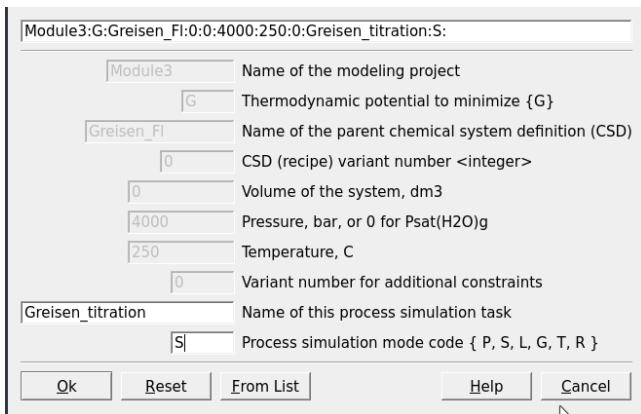

Figure 3.14: Name the ‘Process’ simulator and indicate the model type.
- Create a titration model similar to Module 2 for the feldspar reaction path, except this time we will choose "R_leucogranite" as the titrant. The simulation conditions will be 250 °C and 4000 bar, and we will add 0.1 g to 2000 g of R_leucogranite to Fluid_greisen. Figures 3.14, 3.3, and 3.15 show the parameters to be entered in the subsequent **Process** wizard windows. Don't forget to un-tick the box "Save generated SysEq records" in Step 5 to avoid saving too many **SysEq** records.